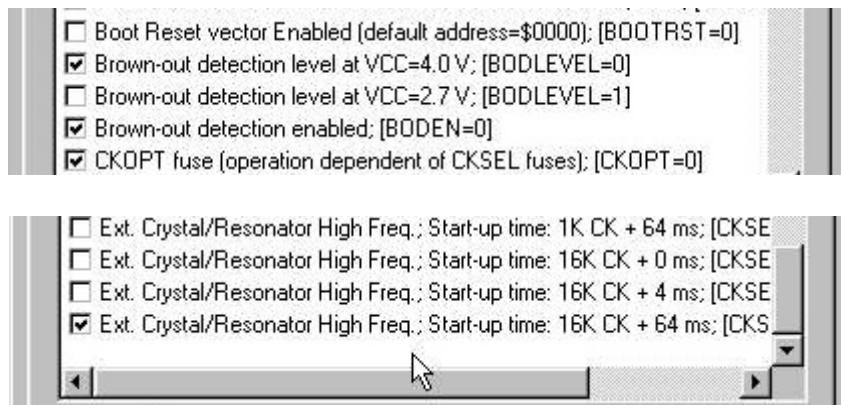

FIGURE B-9: CPU CONFIGURATION USING AVR STUDIO
- D6) Configure CPU as indicated in images of figure B-9.